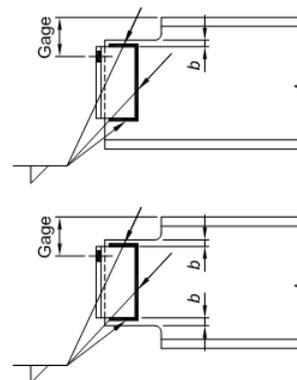

Fig. 8-14. Illustration of shelf dimensions for fillet welding.
- Minimum Shelf for Fillets, Fig 8-14